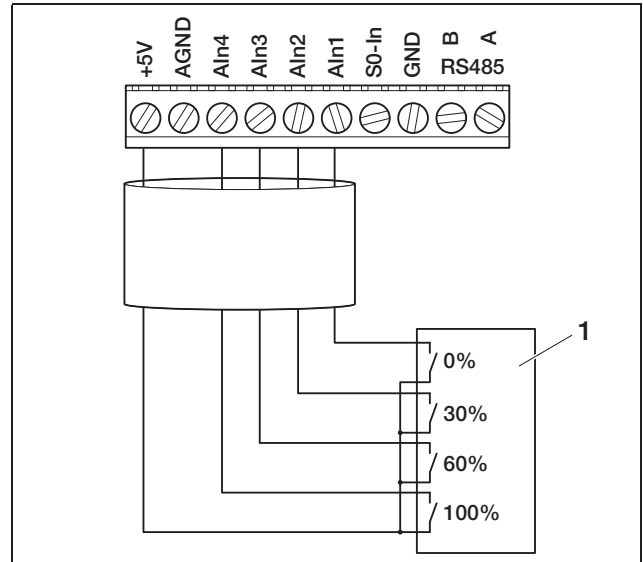

Fig. 59: Connecting the ripple control receiver to the inverter
- Connect the ripple control receiver lines in accordance with the terminal assignment (figure 59 and table 7).